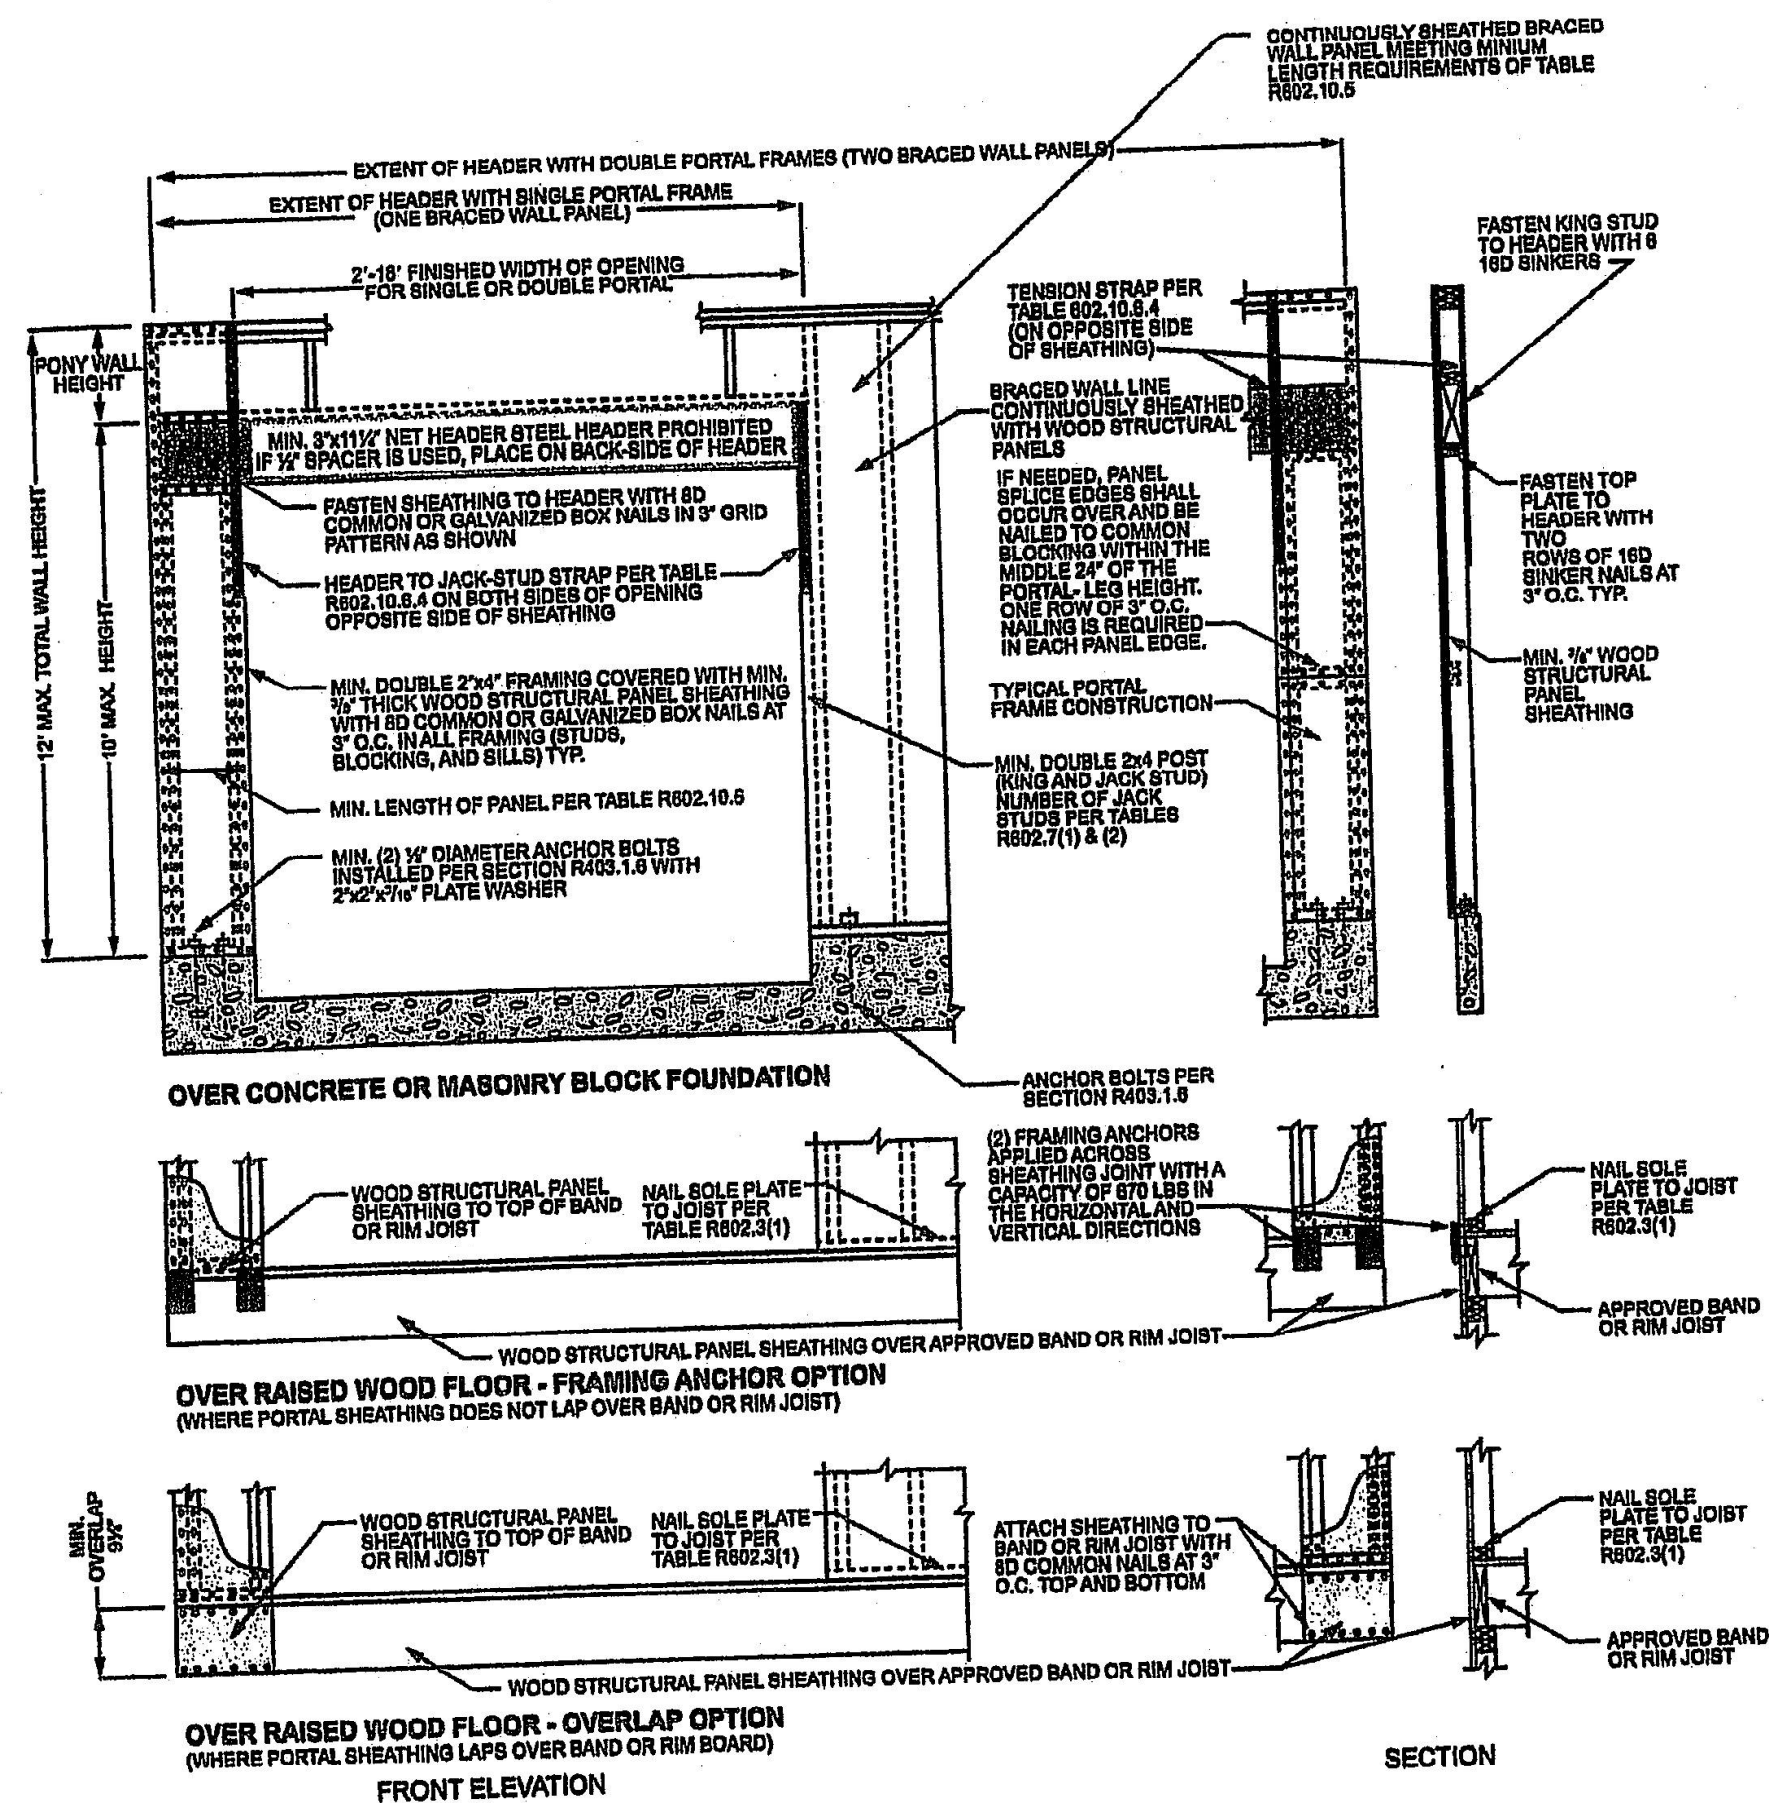

FIGURE R602.10.6.4
c. Maximum header height for PFH is 10 feet in accordance with Figure R602.10.6.2, but wall height shall be permitted to be increased to 12 feet with pony wall.
d. Maximum header height for PFQ is 10 feet in accordance with Figure R602.10.6.4, but wall height shall be permitted to be increased to 12 feet with pony wall.
e. Maximum header height for CS-PF is 10 feet in accordance with Figure R602.10.6.4, but wall height shall be permitted to be increased to 12 feet with pony wall.